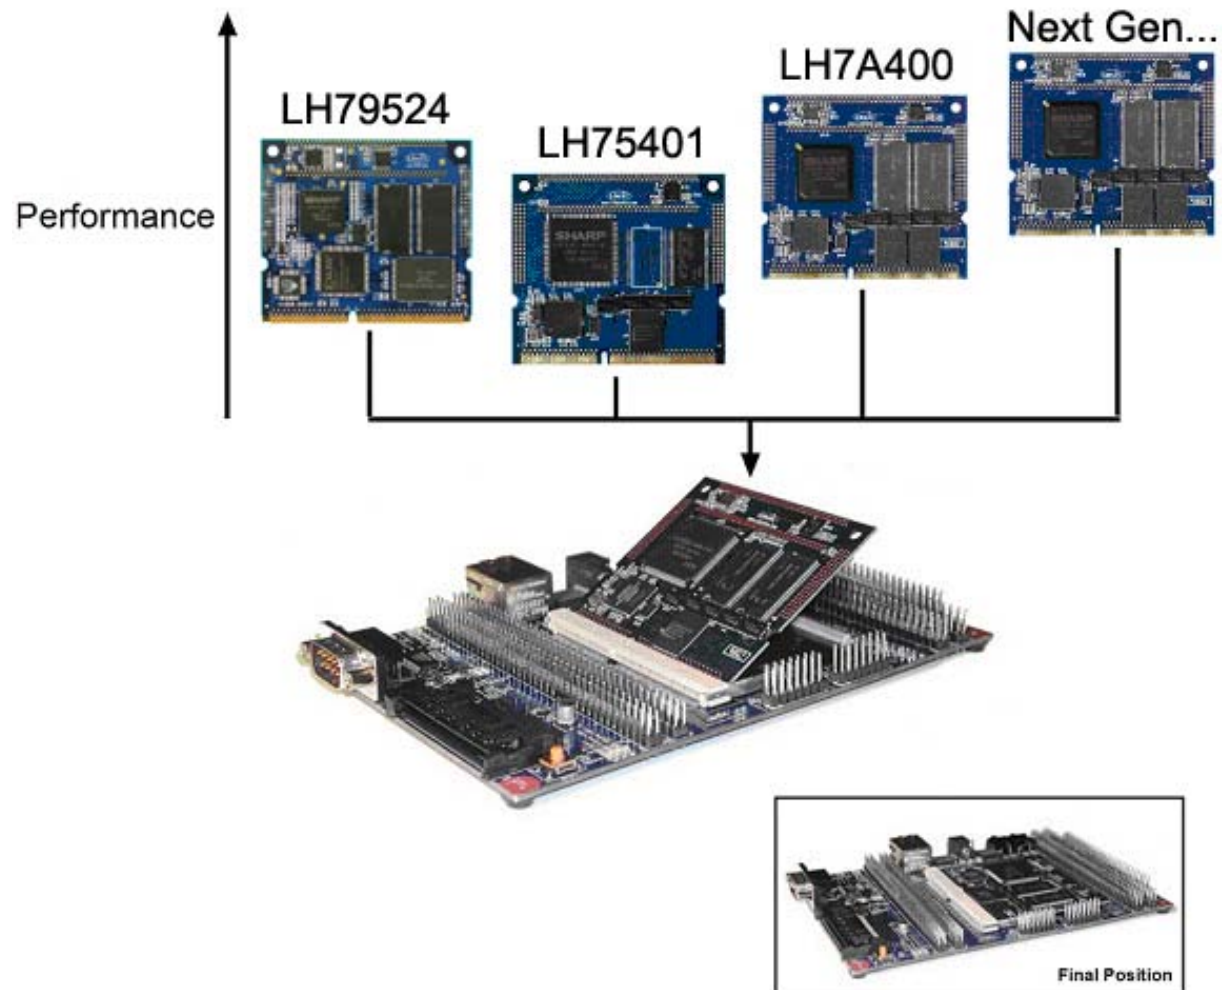

Figure 1.1: Card Engine Advantages
- Common Card Engine Footprint (See Figure 1.1)